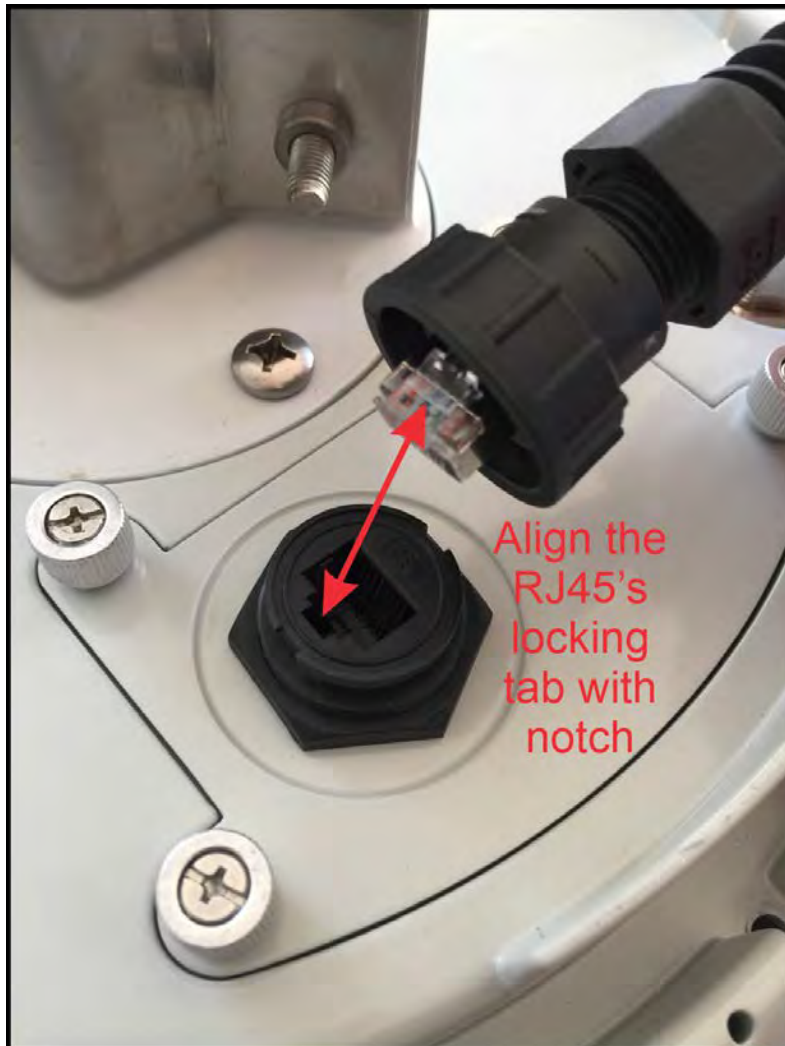

Figure 20: Align the locking tab with the notch
24. Align the DSC connector with the bulkhead connector of the GATE-2000, and slide the RJ45 of the DSC connector into the mating bulkhead connector on the bulkhead connector. Refer to Figure 20.